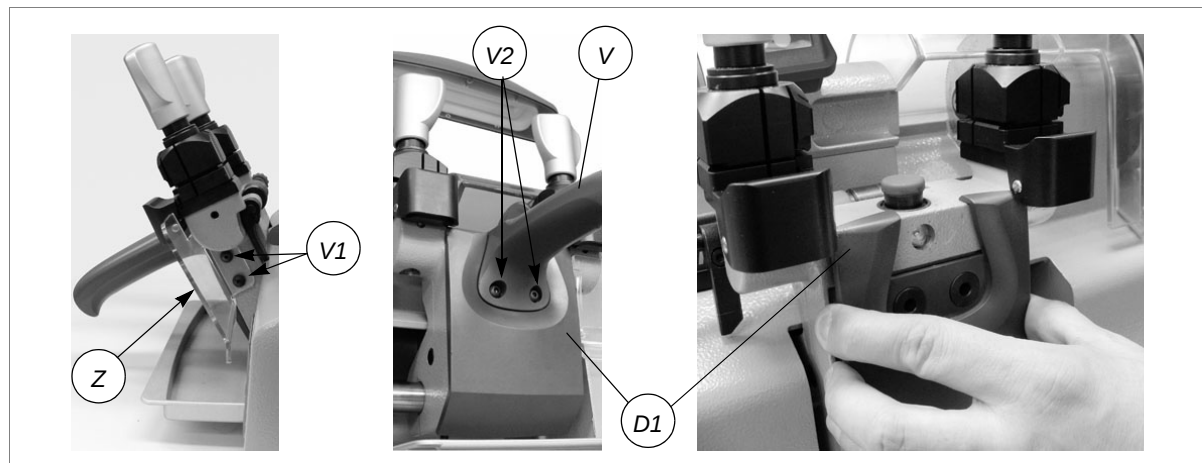
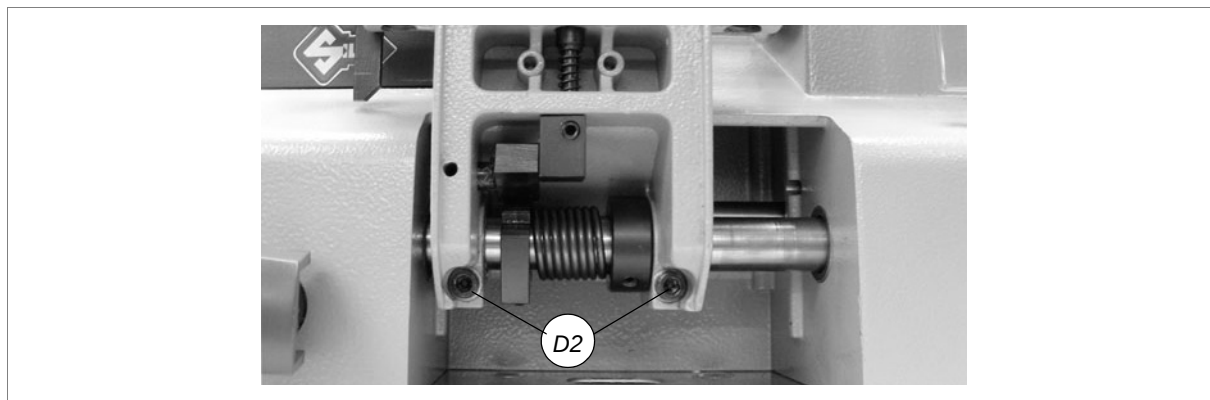

Fig. 49
Fig. 50
- 2) Loosen the 2 screws (V1) and remove the protection from swarf (Z) (fig.49).
- 4) Loosen the 2 screws (V2) on the carriage knob (V) (fig.49).
- 5) To remove the knob (V), raise a little and pull off.
- 7) Loosen the 2 screws (D2) on the carriage (fig. 50, page 33).